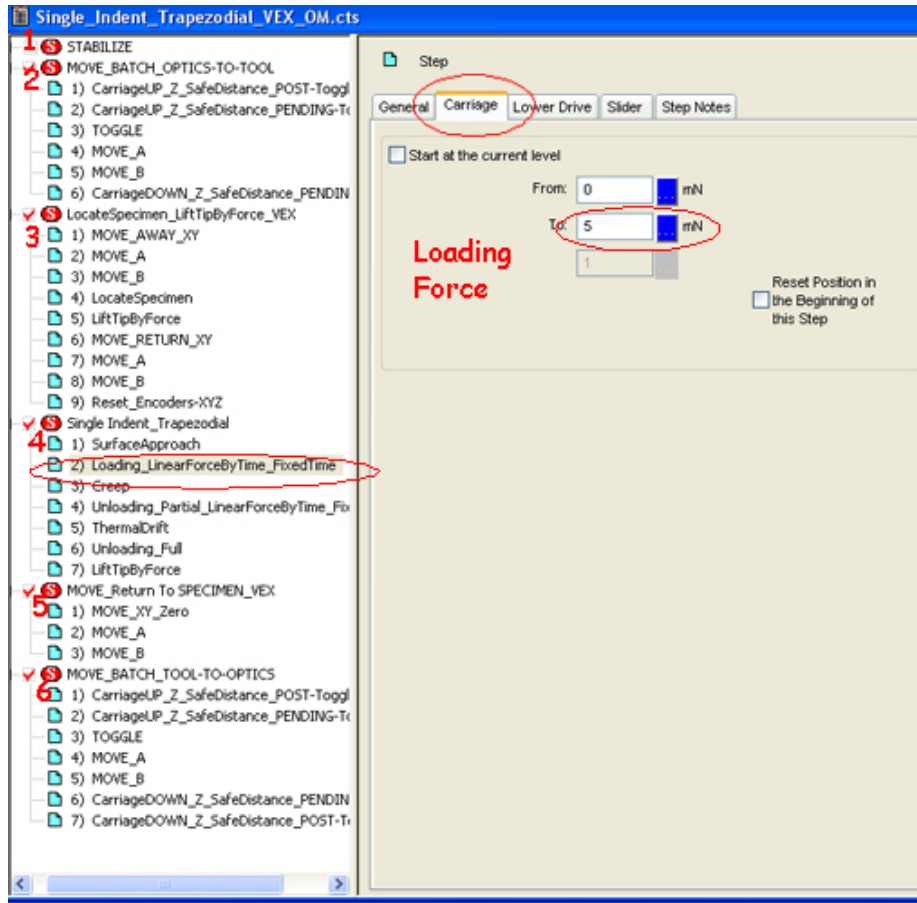

Figure 5: Loading Force changed to 5mN.
- 3) Change the 5mN load to the desired load i.e. 5mN as shown in Figure 5.